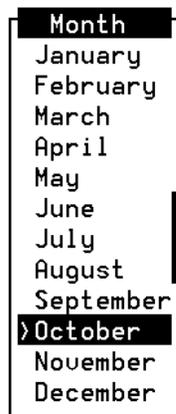

Figure 3-17. UNIX Month Choices Menu
- a. Press `(CHOICES)` (F2) to display the months of the year (Figure 3-17).